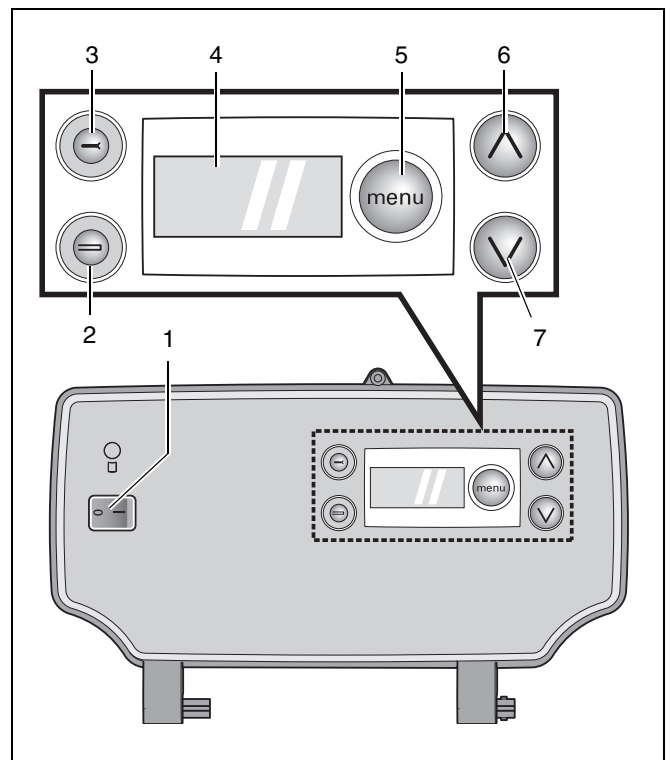
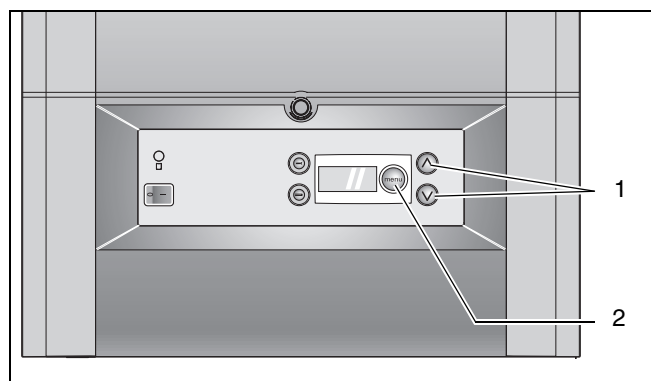

fig. 43 DBA
fig. 48 DBA - adjusting arrows
##### 1. Mains switch (see fig. 43)
##### 2. Reset button "⊖" (see fig. 43)
##### 3. Service Button "⊖" (see fig. 43)
#### 4. Display (see fig. 43)
#### 5. Menu button "Ⓜ" (see fig. 43)
#### 6. and 7. Up "⬆" and Down "⬇" keys (see fig. 43)
- Press "Ⓜ" button twice then adjust the DHW temperature to the desired temperature (40 °C - 60 °C) using the "⬆" and "⬇" keys (see fig. 48, item 1). Factory setting is 48 °C.
- Press the  button (see fig. 48, item 2) three times.
- Press  button (see fig. 48, item 2) four times then adjust the flow temperature to the desired temperature (30 °C – 80 °C) using the  and  keys (see fig. 43, item 1). Factory setting is 80 °C.